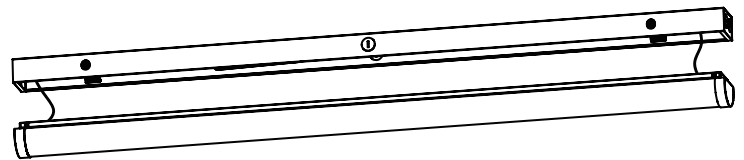

FIGURE 3
3. Press the screws on both sides of the luminaire by hand to open. (Figure 3)